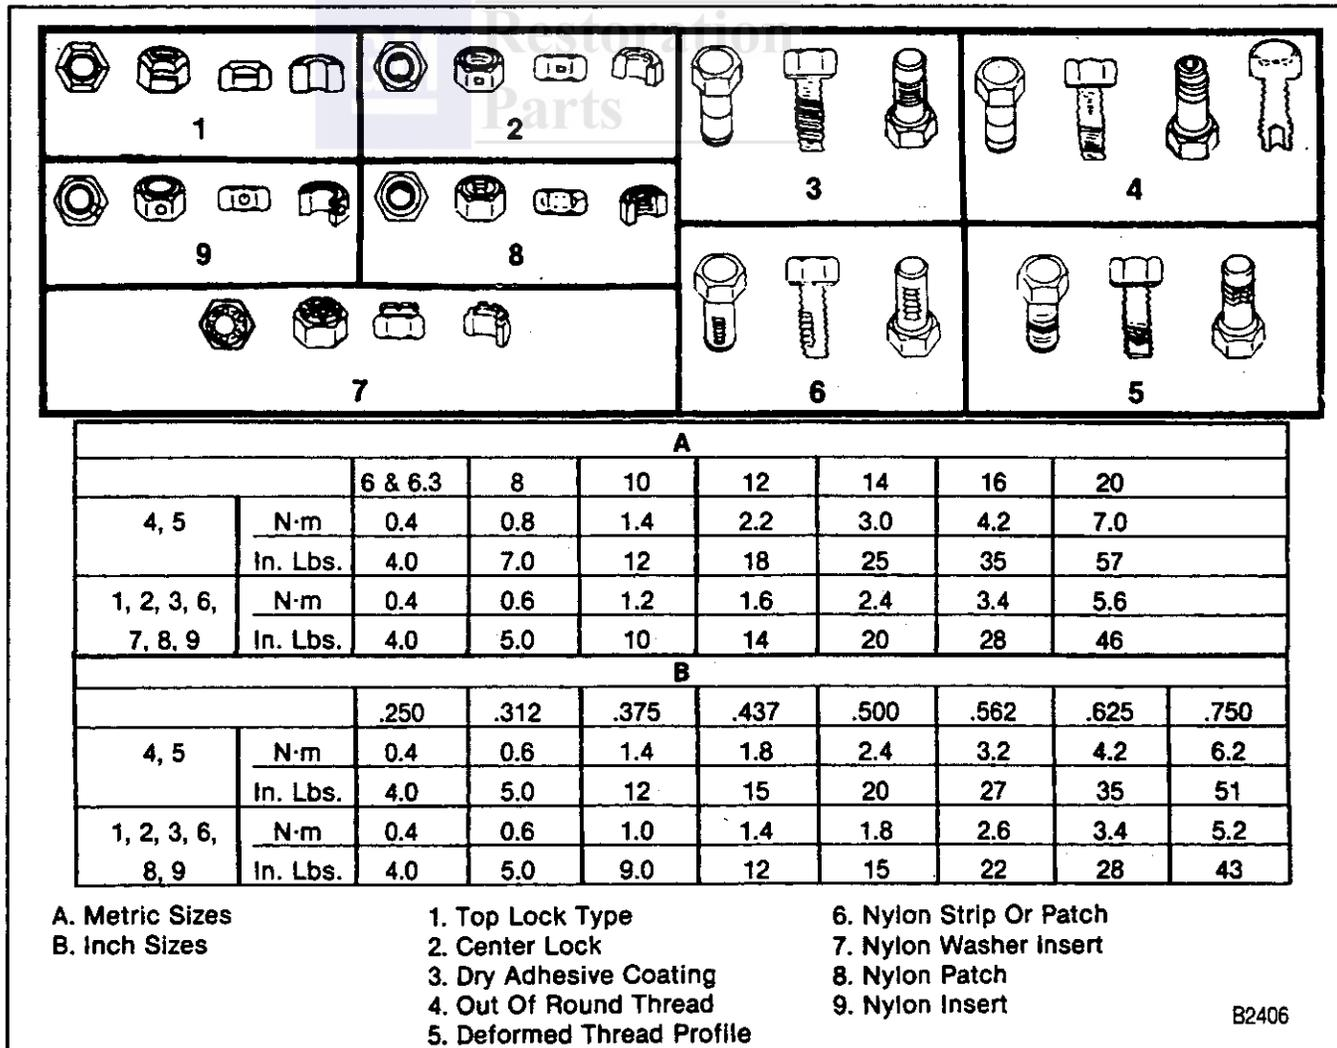

Figure 25—Prevailing Torque Nuts and Bolts
A prevailing torque nut is designed to develop an interference between the nut and bolt threads. This is most often accomplished by distortion of the top of an all-metal nut by using a nylon patch on the threads in the middle of the hex flat. A nylon insert may also be used as a method of interference between nut and bolt threads (figure 25).
- D. Observe that, before fastener seats, it develops torque per the chart in figure 25. (If there is any doubt, replace with a new prevailing torque fastener of equal or stronger strength.)